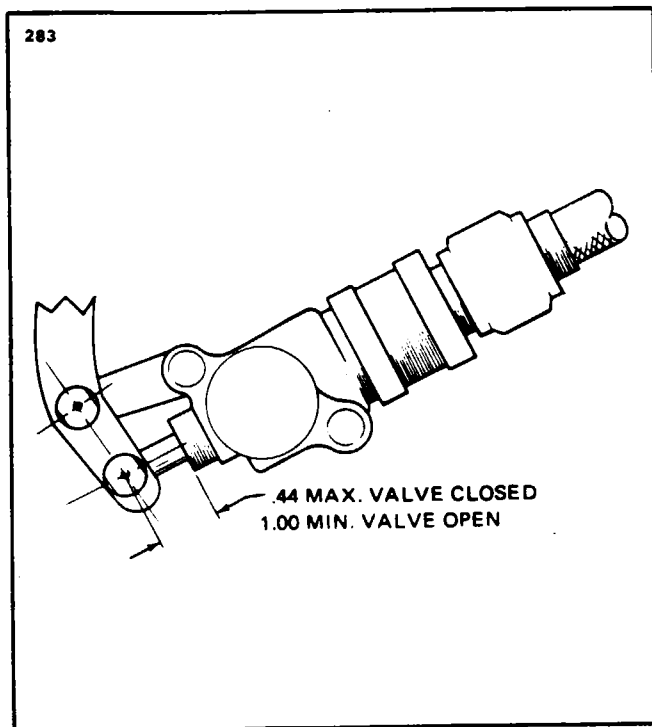

Figure 28-12. Adjustment of Crossfeed Valve
- D. Assemble the control cable clevis on the arm of the crossfeed handle. Adjust the clevis end of the control cable to obtain a maximum of seven-sixteenths of an inch between the center of the pin that goes through the valve and valve body. (Refer to Figure 28-12.)